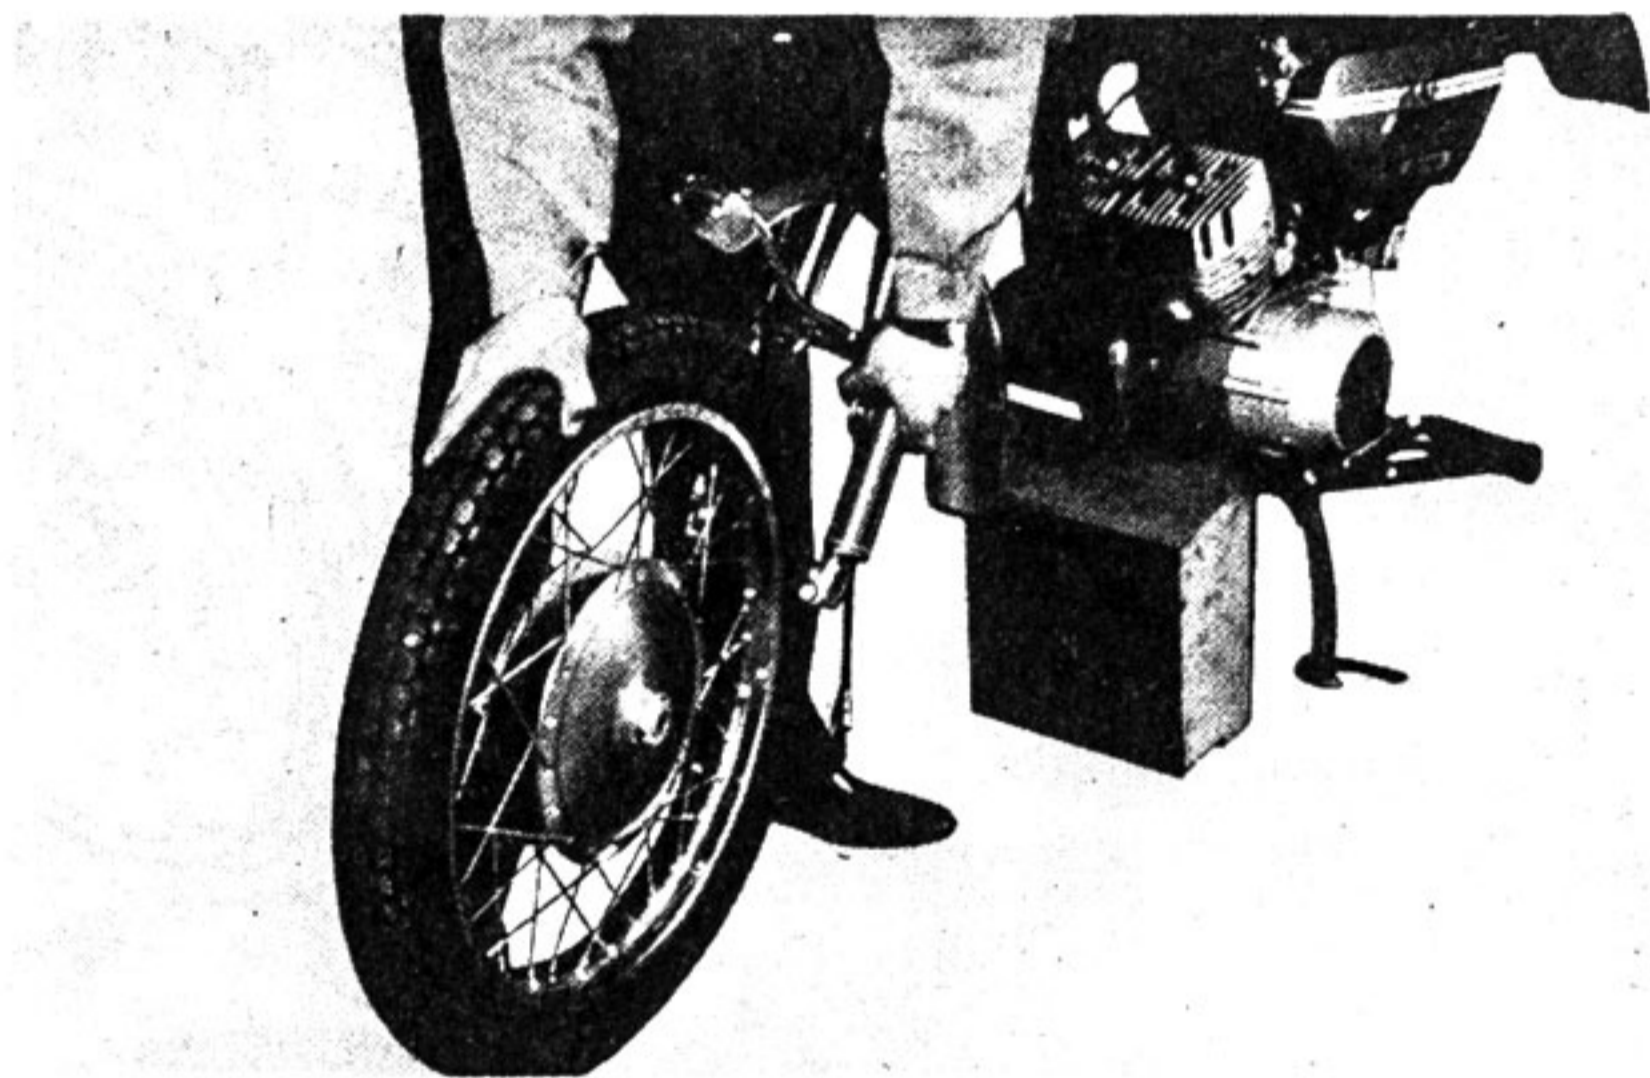

Fig. 5-1-6
(5) Remove the front wheel ass'y (Fig. 5-1-6)